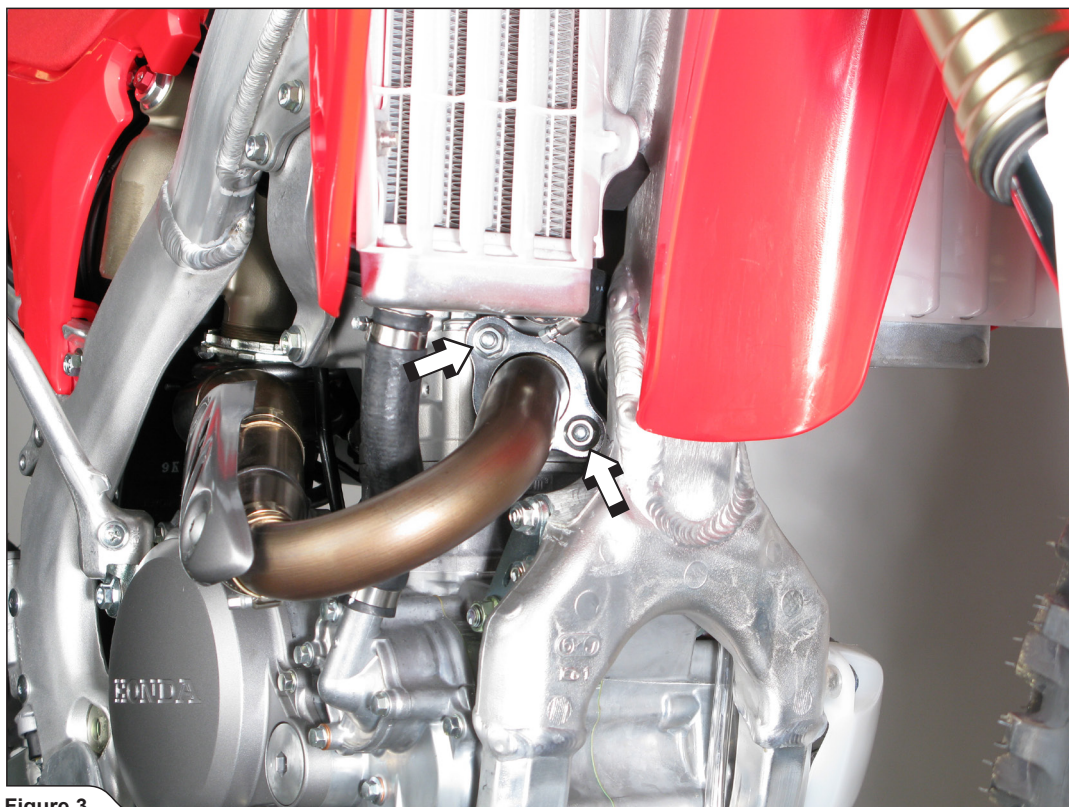

Figure 3
4. Unscrew the two marked nuts and remove the stock header pipe off the motorcycle (**Figure 3**).